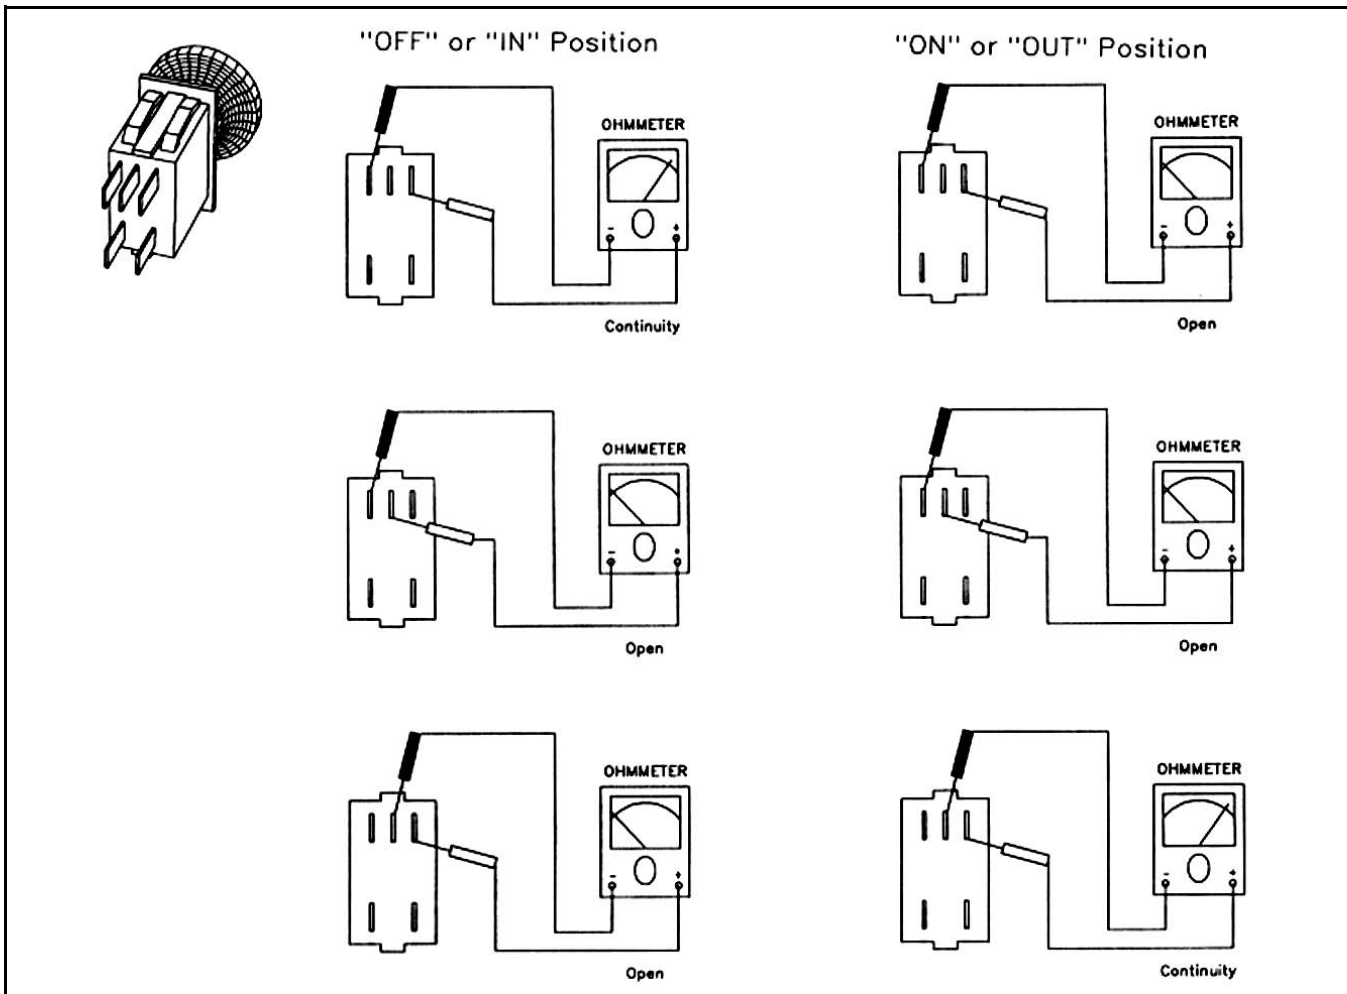

Figure 39
4. Verify that there is continuity between the appropriate terminals in the "ON" and "OFF" positions, Figure 39.
5. Replace the switch if your test results do not correspond with those given in Figure 39.